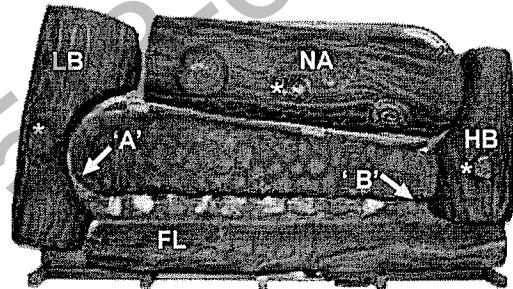

FIGURE 11E
2. Place the 'NA', 'LB', 'HB', and 'FL' logs into position on the burner cover aligning the holes in the bottom of the logs to the corresponding pins in the burner cover. Fig. 11E
4. Align the holes in the bottom of the 'BL' and 'AP' logs to the alignment knobs\* protruding from the 'LB' and 'HB' logs. Refer to figures 11E & 11F.
5. Align the hole in the bottom of the 'TL' log onto the alignment knob\* protruding from the 'NA' log. Set into position between the 'BL' log and 'AP' log as shown in figures 11E & 11F.